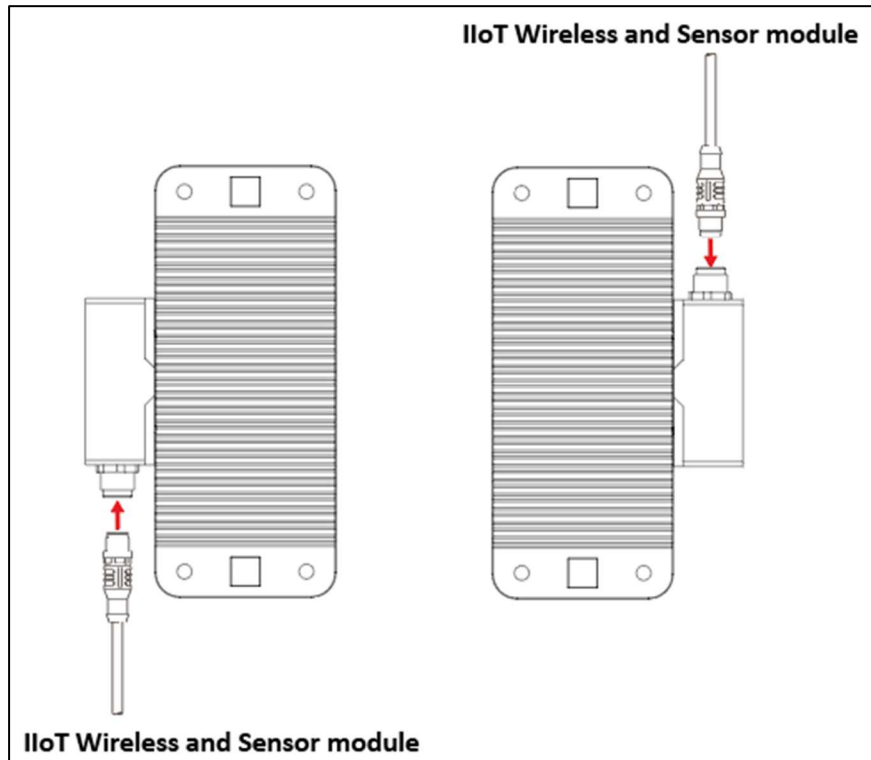

Figure 17.- Correct Thermoelectric generator orientation between modules
- Position the Thermoelectric generator unit to best suit the wireless module position (Figure 17).